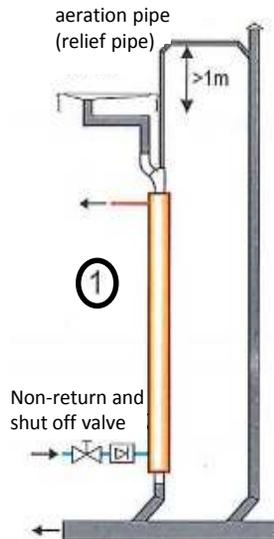

fig. 4
1. A connection to a relief pipe or stand pipe (with relief pipe) of the shower (see fig. 4).